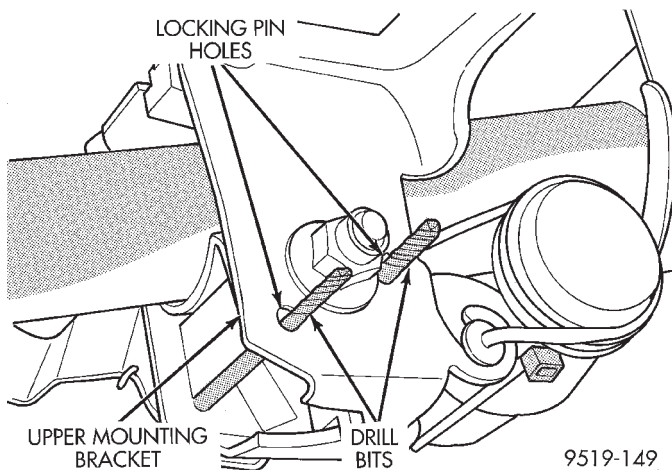

Fig. 17 Locking Pins Installed In Steering Column Bracket
(23) Place steering column so it is positioned in the middle of its tilt range. Place the steering column assembly tilt lever in its fully locked position. Then insert a 5/32 inch drill bit in each locking pin hole on the upper steering column mounting bracket (Fig. 17).
(3) Remove the 2 drill bits (Fig. 17) from the steering column upper mounting bracket. **If a new steering column is being installed in the vehicle, remove the shipping (grenade) pin from steering column upper mounting bracket.**